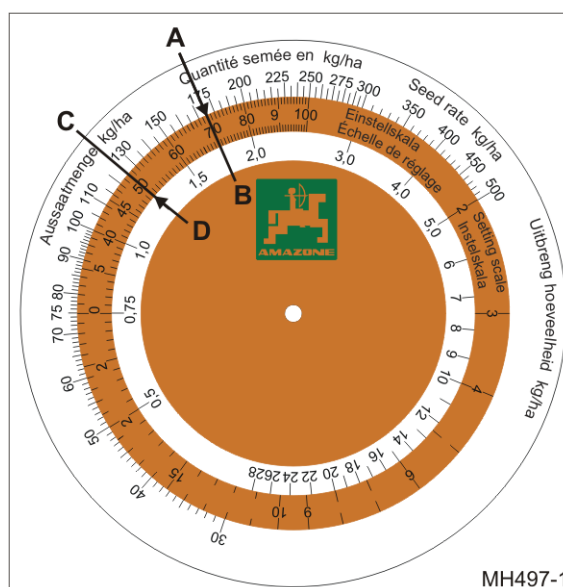

Fig. 176
175 kg/ha (Fig. 176/A)
- o Gearbox setting value 70 (Fig. 176/B).
125 kg/ha (Fig. 176/C)
- o Gearbox setting value 50 (Fig. 176/D).